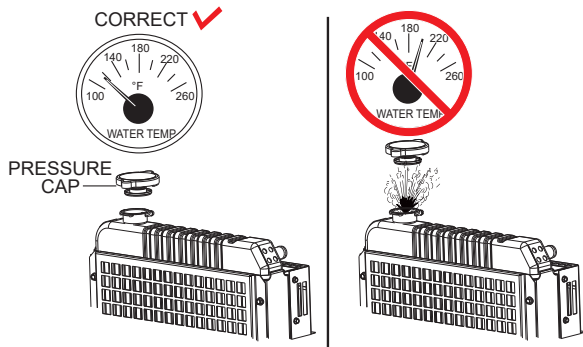

Figure 57. Radiator Pressure Cap Removal
1. Remove the **radiator pressure cap** (Figure 57) only when the coolant temperature is below 120°F (50°C).